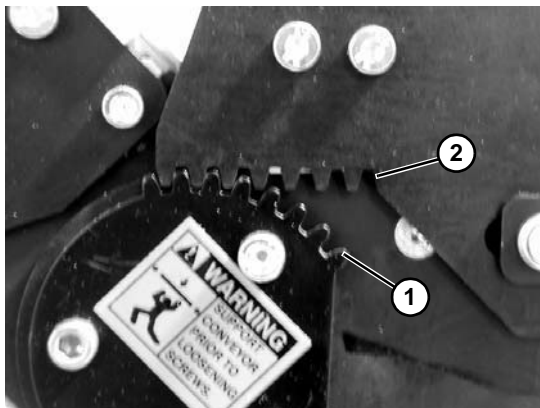

**Figure 34**
6. Install knuckle guard (**Figure 34, item 1**) on both sides of knuckle with screws (**Figure 34, item 2**). Tighten screws to 25 in-lb (3 Nm).